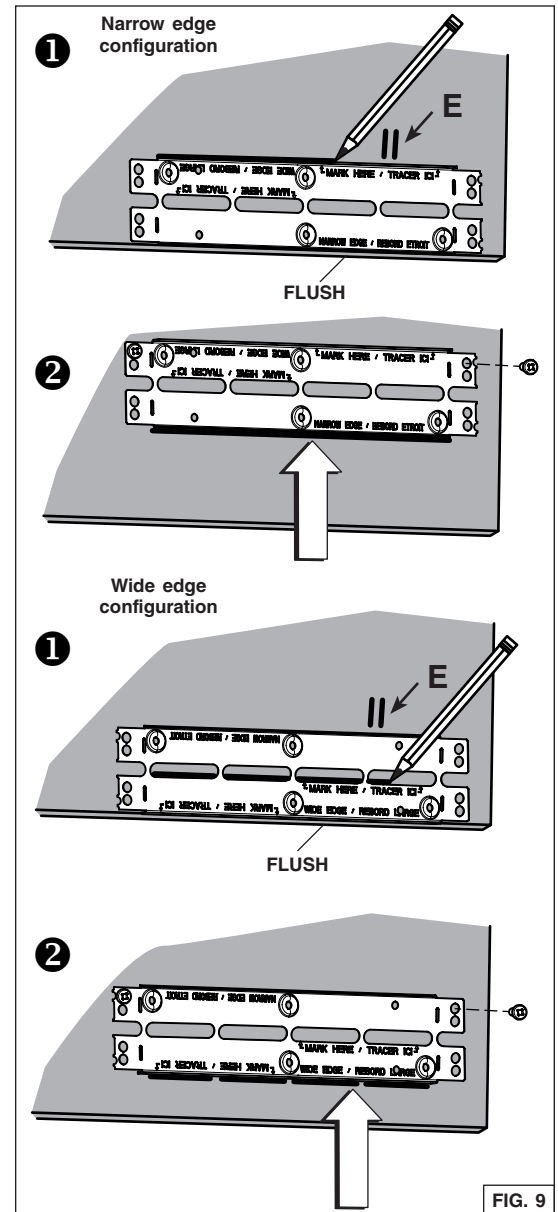

FIG. 9
5. Pay attention to the Ease of Install hooks location on the unit (distance given from unit front flange, FIG. 8). Measure and mark the position of the Ease of Install hooks (shown as **E** in FIG. 9 on next page) on both cabinet side walls.
6. Install the cabinet brackets as follow (FIG. 9):
- 1 Align the bracket flush with the bottom of the right cabinet side panel, with the hooks marked position (E) between the bottom embossed holes. For the narrow edge configuration, trace a line on the top of the bracket. For wide edge configuration, trace a line at the bottom of the central slots.